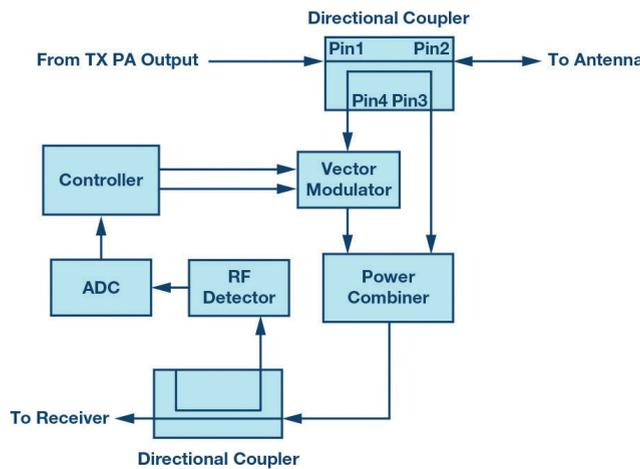

Figure 2. Typical self jammer cancellation circuit.
range requirement on the subsequent components is loosened. This means that enough gain could put on baseband to decrease the receiver noise figure (NF). These two methods could be used separately or combined. A typical SJC circuit is shown in FIGURE 2. [5]